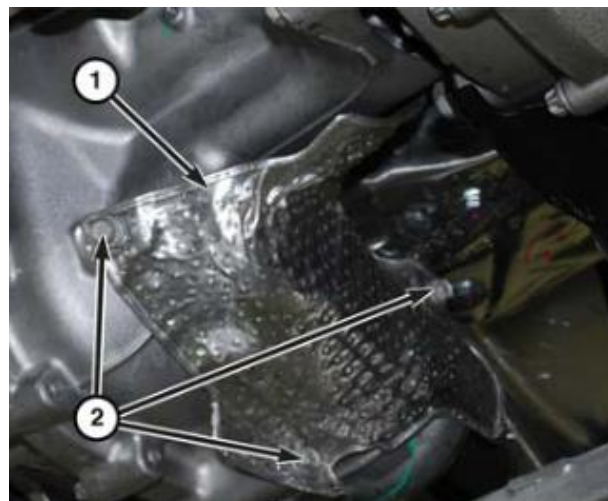

Figure 32 – PTU Heat Shield
10. Remove the fasteners (2) holding the heat shield (1) to the Power Transfer Unit (PTU) (Figure 32).
11. Separate the heat shield (1) from the PTU (Figure 32).
9. Place the heat shield (1) in position on the PTU (Figure 32).
10. Install the fasteners (2) to hold the heat shield (1) to the PTU and tighten to:
- M6 bolts to 11 N·m (8 ft. lbs.) (Figure 32).
- M8 bolts to 23 N·m (17 ft. lbs.) (Figure 32).